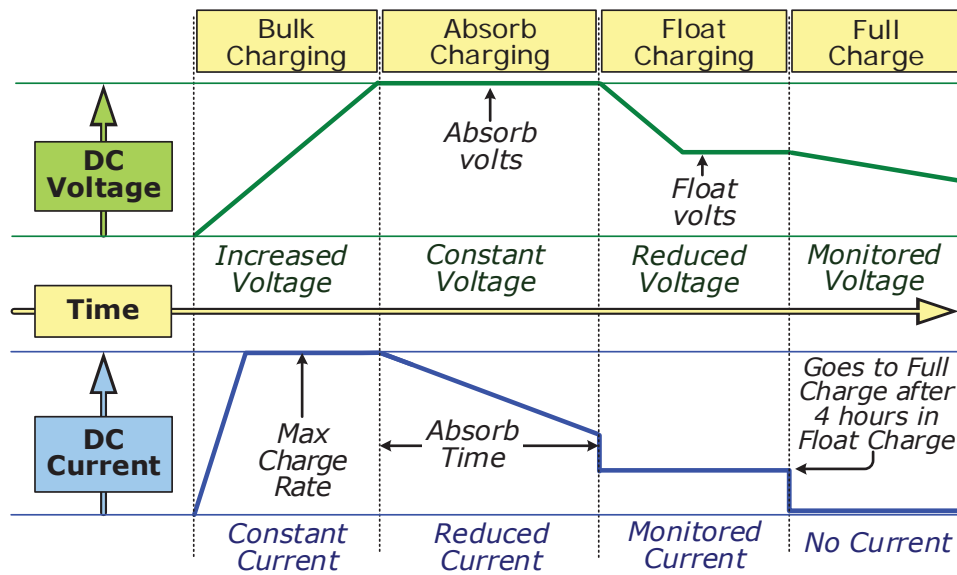

Figure 3-4, Automatic 4-Stage Charging Graph
The MSH3012RV's multi-stage charger can use up to five different charging stages to help keep the batteries healthy. The five stages include an automatic 4-stage charging process (see Figure 3-4): Bulk, Absorb, Float, and Full Charge; and a manual Equalization (EQ) charge stage. The automatic 4-stage charge process provides complete recharging and monitoring of the batteries without damage due to overcharging. The EQ stage (requires a remote control display to enable) is used to stir up stratified electrolyte and to reverse any battery plate sulfation that may have occurred—if recommended by your battery's manufacturer.